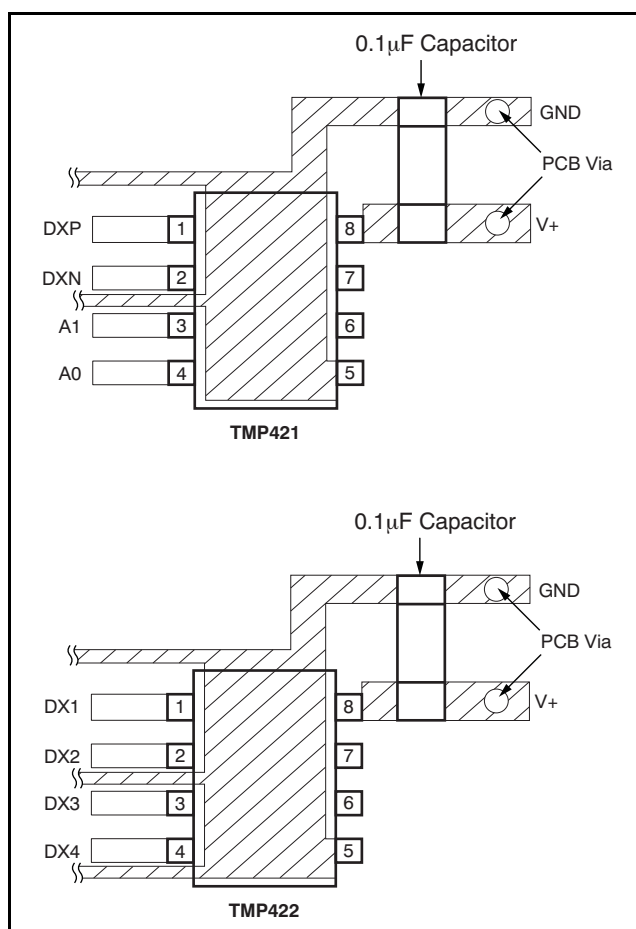

Figure 20. Suggested Bypass Capacitor Placement and Trace Shielding
4. Use a 0.1 μ F local bypass capacitor directly between the V+ and GND of the TMP421/22, as shown in Figure 20. Minimize filter capacitance between DXP and DXN to 1000pF or less for optimum measurement performance. This capacitance includes any cable capacitance between the remote temperature sensor and TMP421/22.